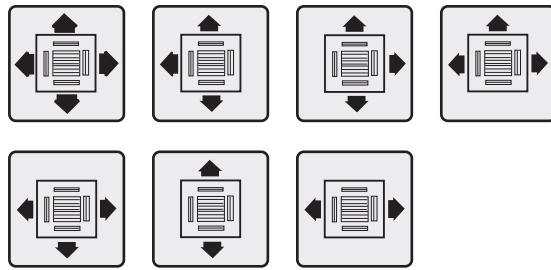
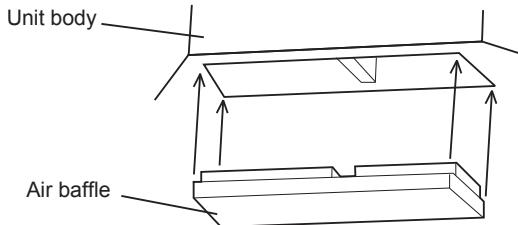

Figure 2.3
Figure 2.4
- Based on the shape of the room, determine the airflow directions for the installation site. See Figure 2.3 for the schematic on the direction of airflow. If part of the air vent must be blocked, you may insert an air baffle at the vent of the unit body to block the air flow. See Figure 2.4.